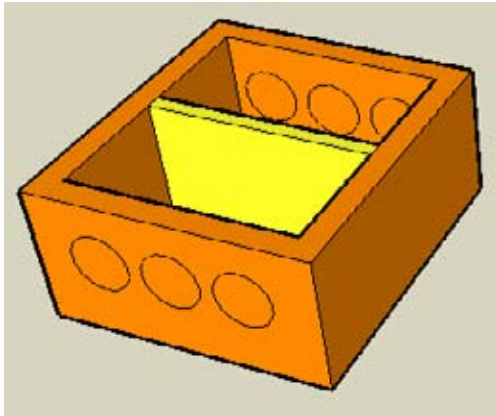

Figure 3-53
4. Hide the group (right-click on it and choose Hide), and you have intersection edges only on the external walls (Figure 3-53).